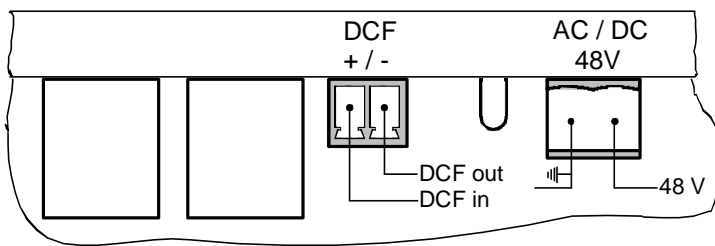

Fig. 6
- Connect the 48V power supply to the "AC/DC 48V" plug (Fig. 6).
- The Radio time signal receiver (DCF / MSF 450 (4500) must be connected to the terminals "DCF in" and "48V GND" (see Fig. 6, 8, 9).